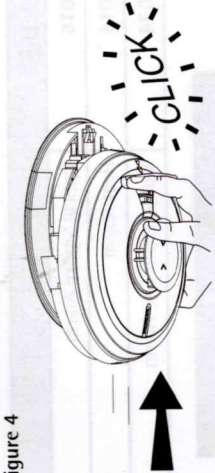

Figure 4
- Replace the wiring cover, carefully line up the Alarm on the mounting plate and slide on (see Figure 4).